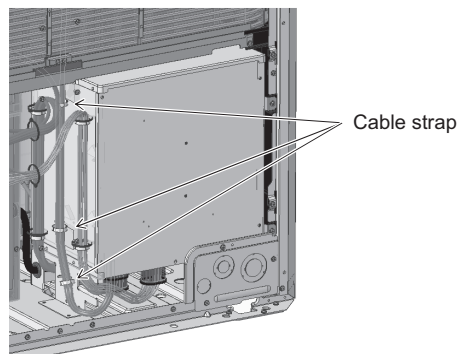

Figure 6
- (8) Remove the cable straps to disconnect the wiring. (See Figure 6.)